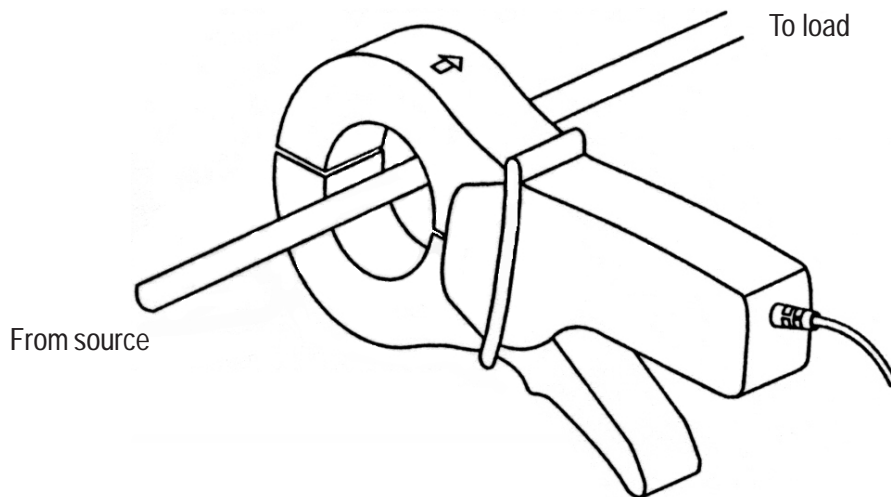

Figure 1: Connecting the A621
2. Connect the probe to the circuit by opening the jaws and clamping around the conductor. See Figure 1. Note: Clamping around both the “hot” and neutral wires may give you a zero reading.